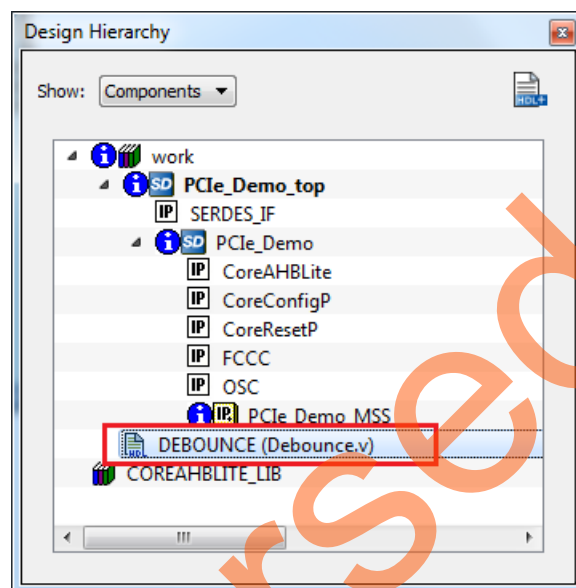

Figure 19 • DEBOUNCE Component in the Design Hierarchy Window
3. Browse to the Debounce.v or Debounce.vhd file location in the design files folder: *M2S_PCIE_Control_DEMO_DF/Source Files*. Figure 19 shows the DEBOUNCE component in the Design Hierarchy window.